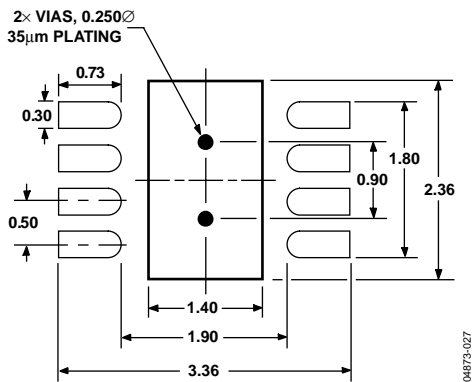

Figure 27. 3 mm x 3 mm LFCSP Pad Pattern
- The pad pattern is shown in Figure 27. Follow the pad dimension closely for reliable solder joints, while maintaining reasonable clearances to prevent solder bridging.